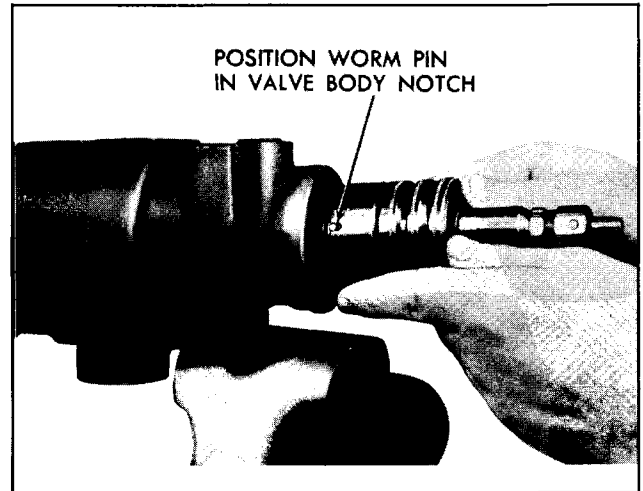

Fig. 9-105 Valve to Worm Alignment
- c. Align the NARROW NOTCH in the valve body with pin in the worm, then install the valve and shaft assembly in the gear housing (Fig. 9-105).